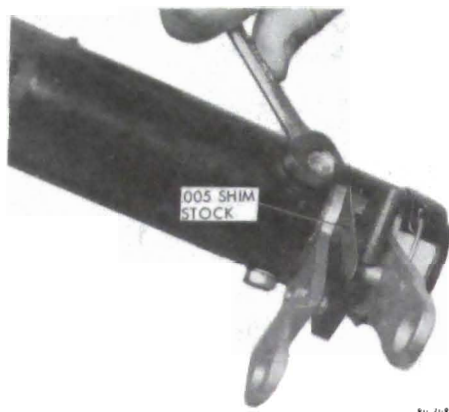

Figure 90-132 - Adjusting Shift Tube Bearing
5. (Manual Transmission Only) Place a .005 shim between first/reverse lever and lever spacer and turn upper shift bearing down and tighten the three screws. Remove shim. See Figure 90-132.